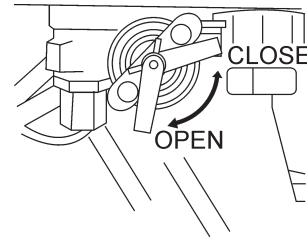

Figure 15. Open Fuel Cock
1. Open the fuel cock (Figure 15).
- Open the fuel cock (Figure 15).
4. Close the fuel cock (Figure 15).